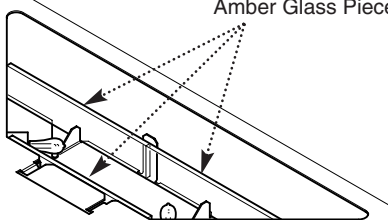

Fig. 83
3. Carefully remove the three amber glass pieces (Fig. 83).